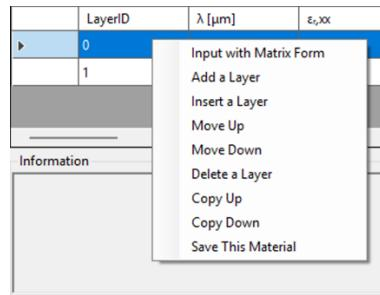

Figure 13. Appeared context menu after right-clicking on a cell
1. Right-click on a cell in the target  $\lambda$  row to open the context menu as shown in Figure 13.